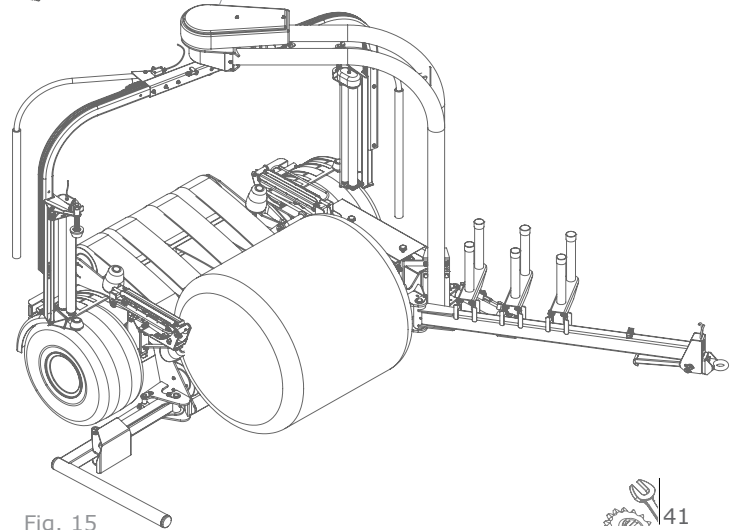

Fig. 15
- Drive up to bale, keeping the Bale Guide close to the end of the bale, commence loading when Load Frame cross tube is in contact with the bale (See Fig. 15).